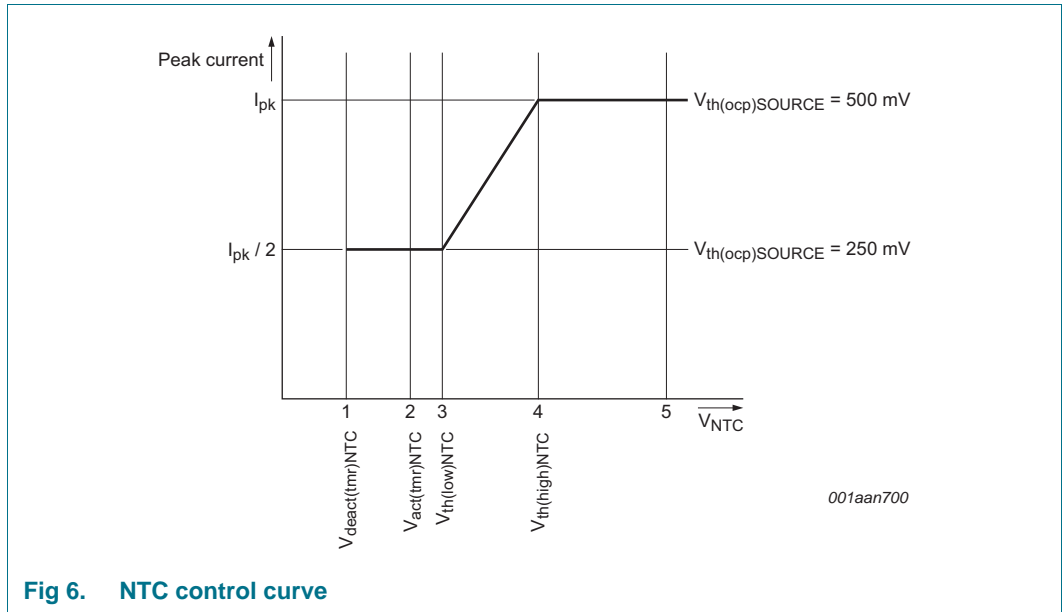

Fig 6. NTC control curve
The NTC pin can be used as a control method for LED thermal protection. Alternatively, the pin can be used as an input to disable/enable light output using a digital signal (PWM dimming). The pin has an internal current source that generates the current of $I_{\text{offset(NTC)}}$. An NTC resistor to monitor the LED temperature can be directly connected to the NTC pin. Depending on the resistance value and the corresponding voltage on the NTC pin, the converter reacts as shown in Figure 6.
When the voltage on the NTC pin exceeds $V_{th(high)NTC}$ (see Figure 6 (4)), the converter delivers nominal output current. When the voltage is lower than this level, the peak current is gradually reduced until $V_{th(low)NTC}$ is reached (see Figure 6 (3)). The peak current is now half the peak current of nominal operation. When $V_{act(tmr)NTC}$ is passed (see Figure 6 (2)) a timer starts to run to distinguish between the following situations:
- If the low-level $V_{deact(tmr)NTC}$ is not reached within time $t_{to(deact)NTC}$ (see Figure 6 (1)) LED overtemperature is detected. The IC stops switching and attempts to restart from the HV pin voltage. The converter restarts from an NTC protection shutdown when the voltage on the NTC pin exceeds $V_{th(high)NTC}$ (see Figure 6 (4)). It is assumed that the reduction in peak current does not result in a lower NTC temperature and LED OTP is activated.
- If the low-level $V_{deact(tmr)NTC}$ is reached within the time $t_{to(deact)NTC}$ (see Figure 6 (1)) it is assumed that the pin is pulled down externally. The restart function is not triggered. Instead, the output current is reduced to zero. PWM dimming can be implemented this way. The output current rises again when the voltage is higher than $V_{th(low)NTC}$.
The NTC pin can be used to make a soft start function. During switch-on, the level on the NTC pin is low. By connecting a capacitor (in parallel with the NTC resistor), a time constant can be defined. The time constant causes the level on the NTC pin to increase slowly. When passing level $V_{th(low)NTC}$ (see Figure 6 (3)), the convertor starts with half of the maximum current. The output current slowly increases to maximum when $V_{th(high)NTC}$ (see Figure 6 (4)) is reached.